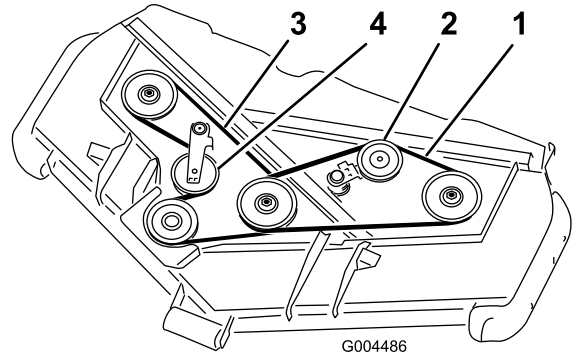

Figure 57
3. Using a breaker bar or similar tool, move the idler pulley for the top belt (Figure 57) away from the top drive belt to release the belt tension and allow the belt to be slipped off the pulleys.
4. Using a breaker bar or similar tool, move the idler pulley for the bottom belt (Figure 57) away from the bottom drive belt to release the belt tension and allow the belt to be slipped off the pulleys.
5. Route a new belt around the gearbox pulley, bottom spindle pulleys, and idler pulley assembly as shown in Figure 57.
6. Route a new belt around the top spindle pulleys and idler pulley assembly as shown in Figure 57.